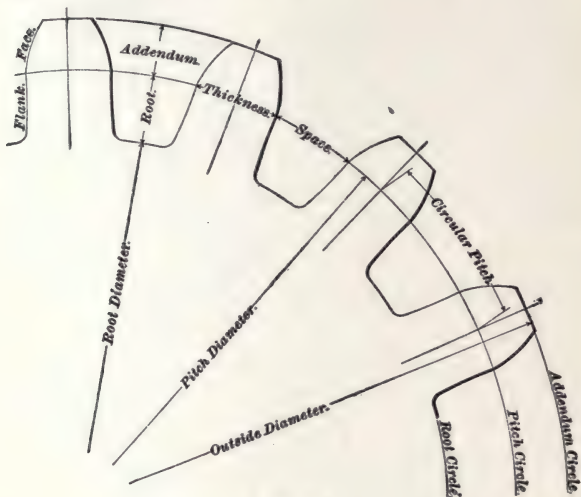

FIG. 24.
**46.** The object in designing the teeth of gear-wheels should be to so shape them that the motion transmitted will be exactly the same as with a corresponding pair of wheels, or cylinders, without teeth and running in contact without slipping. Such cylinders are called **pitch cylinders**, and are always represented on the drawing of a gear-wheel by a line called the **pitch circle** (see Fig. 24). The pitch circle is also called the **pitch line**.
**48. Other Definitions.**—The other necessary definitions applying to the parts of a gear can be readily understood from Fig. 24. The thickness of the tooth and the width of the space are measured on the pitch circle. A tooth is composed of two parts, the **addendum**, or part outside of the pitch circle, and the **root**, which is inside.